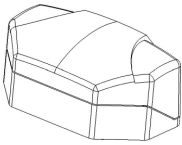
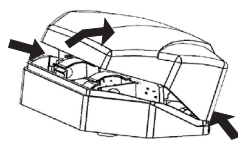

Figure 3
Figure 4
8.1 Remove the Detector cover by pressing on the back wall of the Detector base (Figure 3) and pressing the edges of the cover by the fingers of the other hands at the points shown in Figure 4.